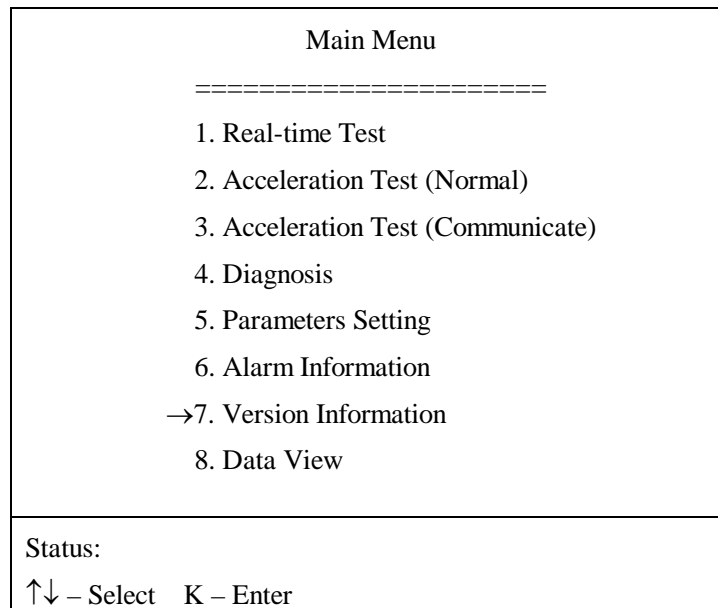
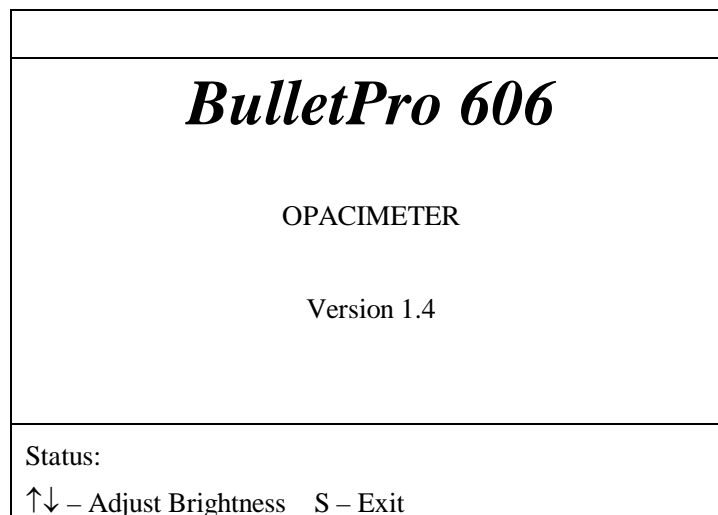

Fig. 24 Interface of “Main Menu”
Fig. 25 Interface of “Version Information”
2) Check accuracy with the optical filter supplied together with the instrument: Insert the optical filter into the lead-in channel (on the side of the detector) on the bottom of the measurement unit (refer to Fig. 25), observe the opacity (raw value) displayed on the screen. This opacity subtracts the standard value of the filter and the indication error is obtained. During accuracy check, never turn or heel over the measurement unit, otherwise the value will be affected. Put the optical filter back to the case immediately after the usage, otherwise it may be damaged by long exposure. The optical filter should be checked regularly to assure the accuracy. Clean the dirty optical filter (if any) by lens tissue each time before usage. No alcohol or other detergent is allowed for cleaning. Maintain and repair the instrument immediately according to the following chapter once the accuracy is out of range. After accuracy check, press “S” key to return to Main Menu.
After installing the instrument as mentioned in Section 5.1 and warm-up in Section 5.2, the instrument enters the interface of Main Menu automatically (as shown in Fig. 24). Move the cursor “→” to item “Version Information” by “↑” key or “↓” key (as shown in Fig. 2), press “K” key to enter the interface of Version Information (as shown in Fig. 25). In this interface, model, description and version number of the instrument will be displayed, and the status information is displayed on the lower part of the screen. Use “↑” key or “↓” key to adjust the LCD brightness. Press “S” key to return to Main Menu.
a) Carefully insert the cleaning brush provided by us into the tube of the test chamber (4 in Fig. 25) from the emission outlet (3 or 6 in Fig. 25), stretch forward while cleaning the smoke soot until it reaches the another emission outlet. During the operation, never touch nor damage the optical lens on the two sides. Do not insert the cleaning brush from the emission inlets (5 in Fig. 25), this may damage the gas temperature sensor.